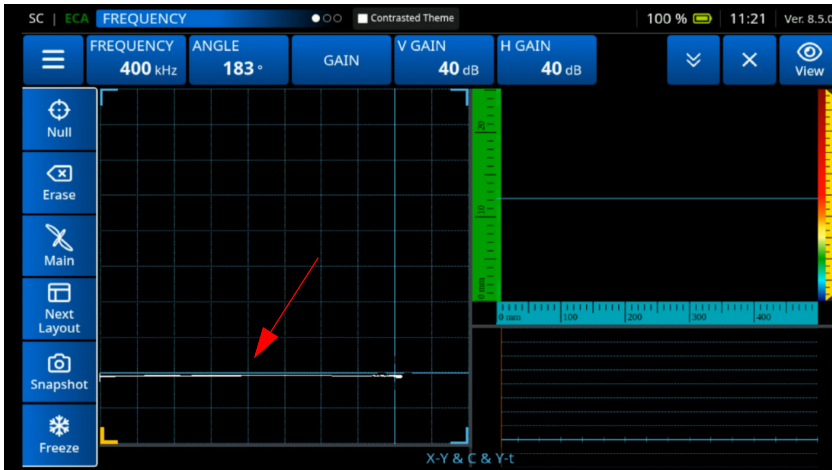

Figure 4-7 Confirm the Lift Off Setting
10. Using the live **XY** plan, tilt the probe to confirm the lift off signal adjustment to the left horizontal position (See Figure 4-7 on page 128).